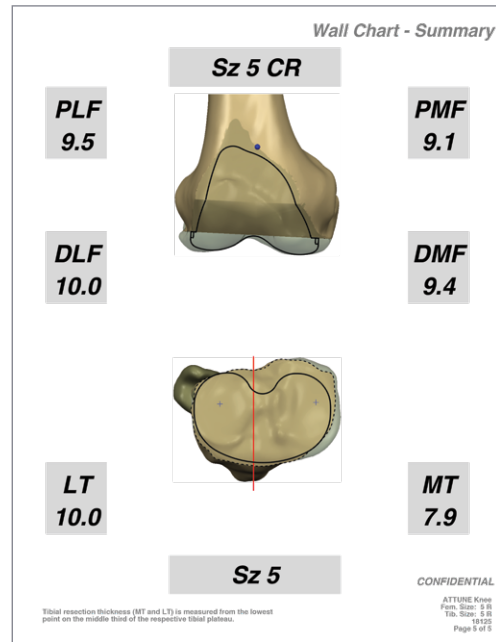

Figure 1
- Review the Wall Chart – Summary (last page), which contains bone resection information and Tibial Guide orientation view (Figure 1).